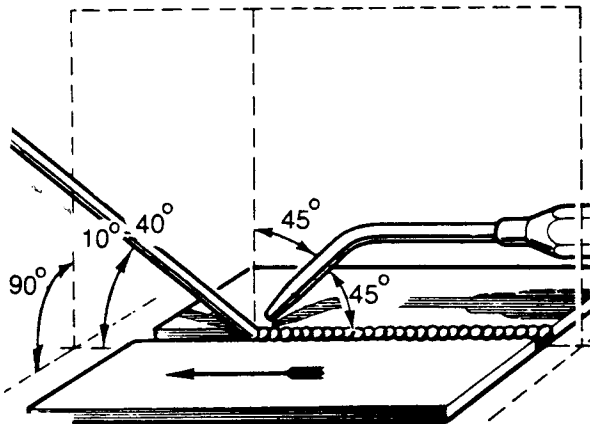

Fig M4.1
7. Refer to Fig M4.1. A small jet must be used, one or two sizes smaller than would be used for welding sheet steel of comparable thickness. For instance, use a No. 2 nozzle for welding 18 SWG sheet, and a No. 3 for 16 SWG sheet.